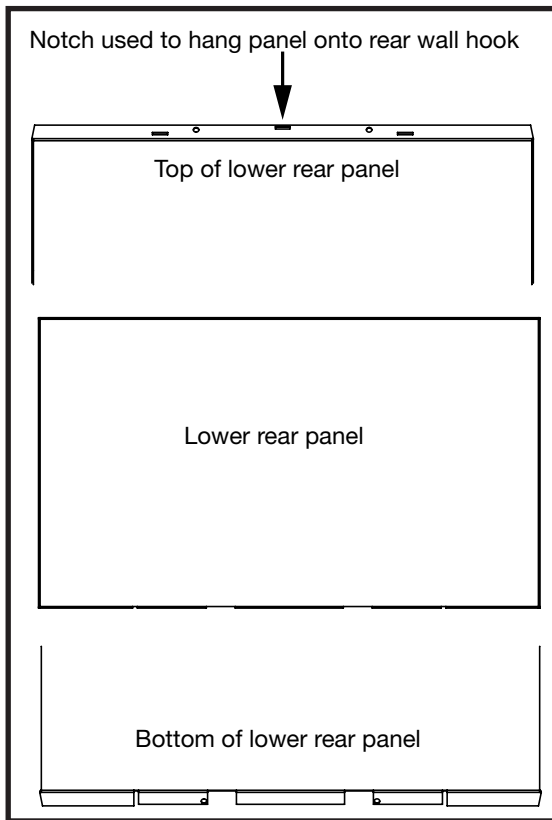
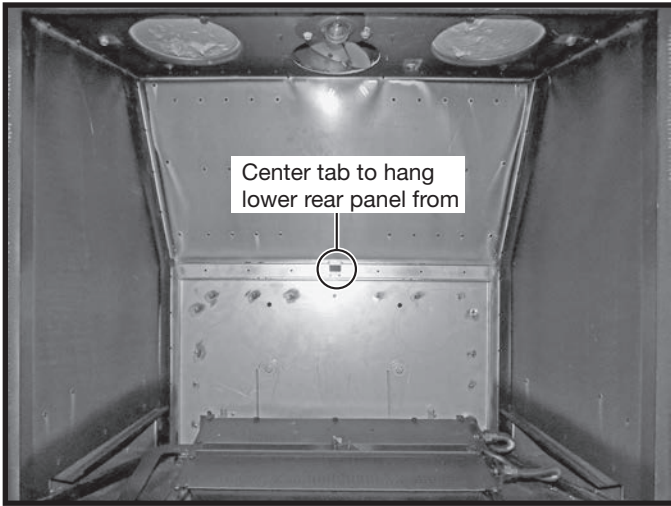
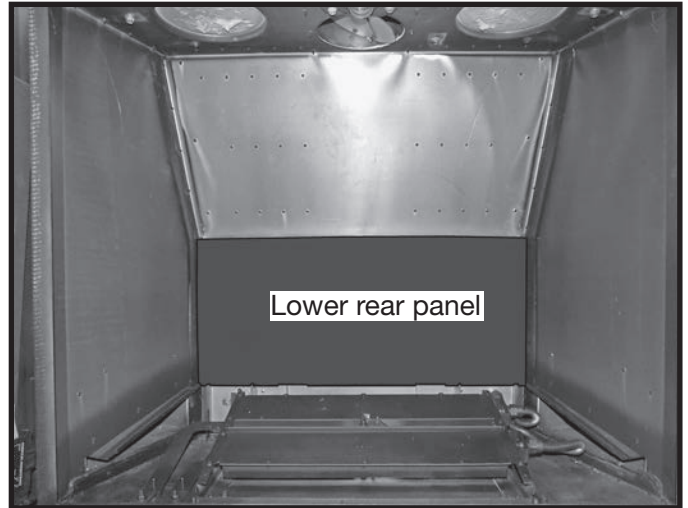

Figure 47: Lower rear panel.
Figure 51: Center tab location.
Figure 52: Lower rear panel in place.
2. Place the lower rear panel against the rear wall and on top of the two supports just behind the burners (Figure 52). Orient this panel so that the center notch is in the up position (Figure 47). This notch will hook onto a tab protruding from the rear wall (Figure 51).